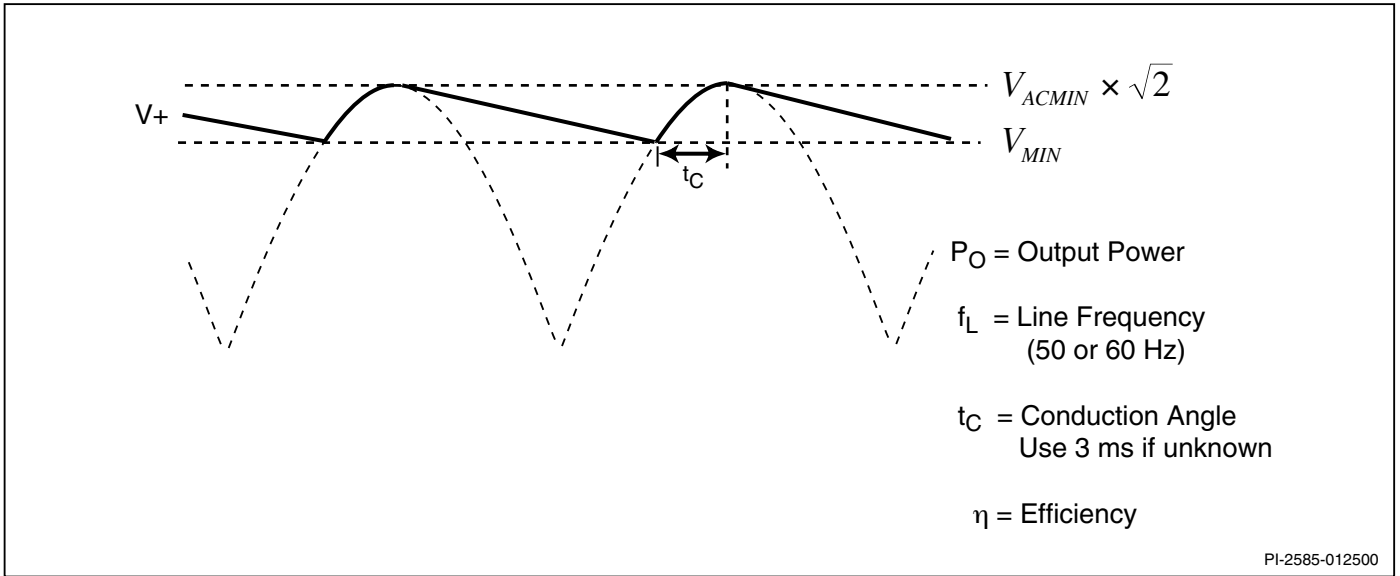

Figure 7. Input Voltage Waveform.
Step 3. Determine minimum and maximum DC input voltages V_{MIN} , V_{MAX} and input storage capacitance C_{IN} based on AC input voltage and P_O (Figure 7)